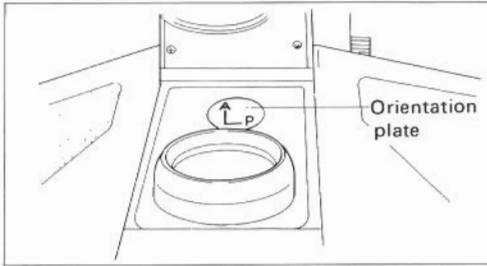

Fig. 24
- When the both are set at 0 reading on the protractor scale, position of the polarization plane coincides with the orientation plate, which shows that the indication "P" of the X-direction is for dia-polarizer and the "A" of the Y-direction is for analyzer, on the microscope base. (Fig. 24)